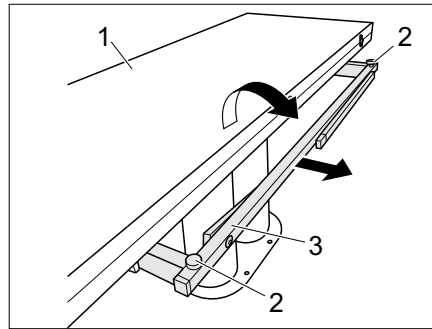

Fig. 112 Increasing the table size
- Pull out the table base (Fig. 112,3).
- Fold out the table half (Fig. 112,1).
- Use the two adjusting screws (Fig. 112,2) to adjust the table-top to the desired height.